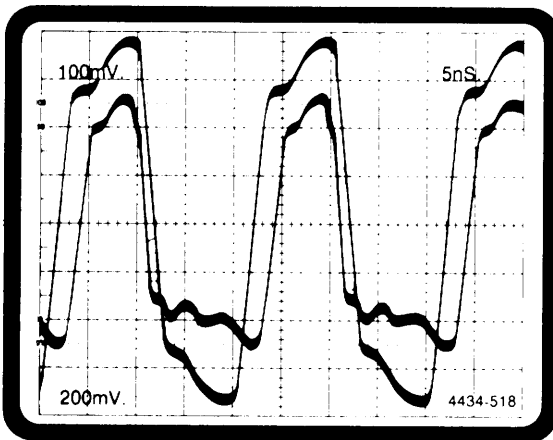

Figure 5-32. 318 Glitch data acquisition test waveform #1.
- a. Set the Pulse Generator as per Table 5-10 and Figure 5-32.